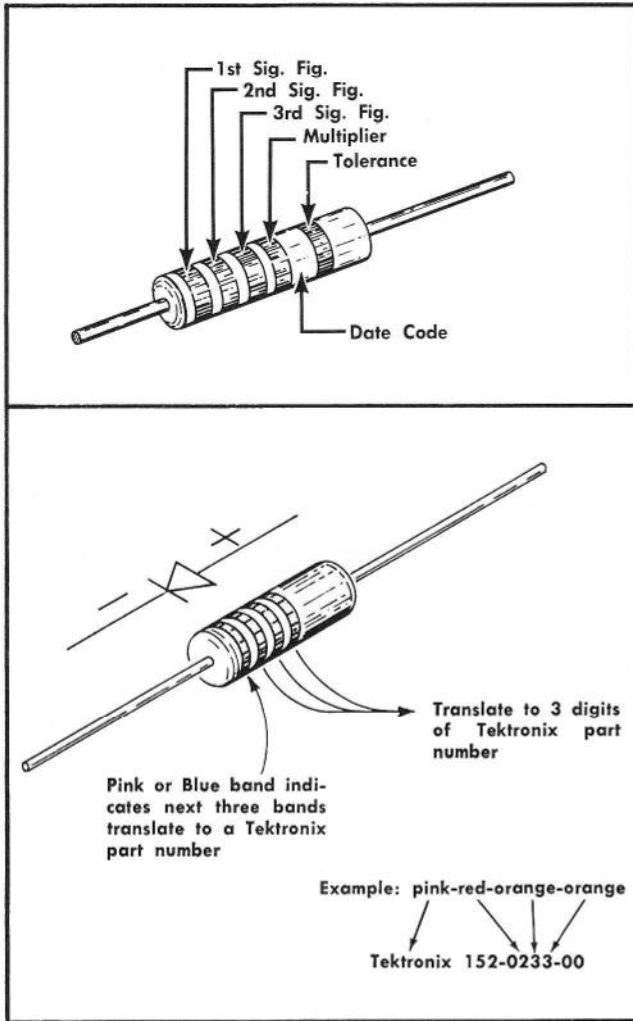

Fig. 4-2. Color coding of metal film resistors and signal diodes.
**Resistor Color Code.** A number of precision metal-film resistors are used in this instrument. These resistors can usually be identified by their gray body color. If a metal-film resistor has a value indicated by three significant figures and a multiplier, it will be color coded according to the EIA standard resistor color code. If it has a value indicated by four significant figures and a multiplier, the value will be printed on the body of the resistor. For example, a 33 kΩ resistor will be color coded, but a 333.5 kΩ resistor will have its value printed on the resistor body. The color code sequence is shown in Fig. 4-2.